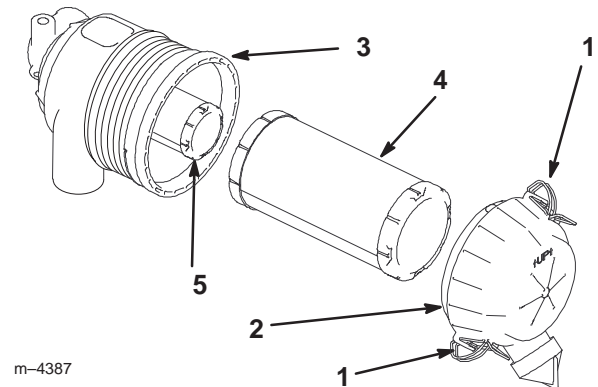

Figure 25
3. Release the latches on the air cleaner and pull the air cleaner cover off of the air cleaner body (Fig. 25).
5. Gently slide the primary filter out of the air cleaner body (Fig. 25). Avoid knocking the filter into the side of the body. Do not remove the safety filter, unless you intend to replace it as well.
2. If the safety filter is being replaced, carefully slide it into the filter body (Fig. 25).
3. Carefully slide the primary filter over the safety filter (Fig. 25). Ensure that it is fully seated by pushing on the outer rim of the filter while installing it.